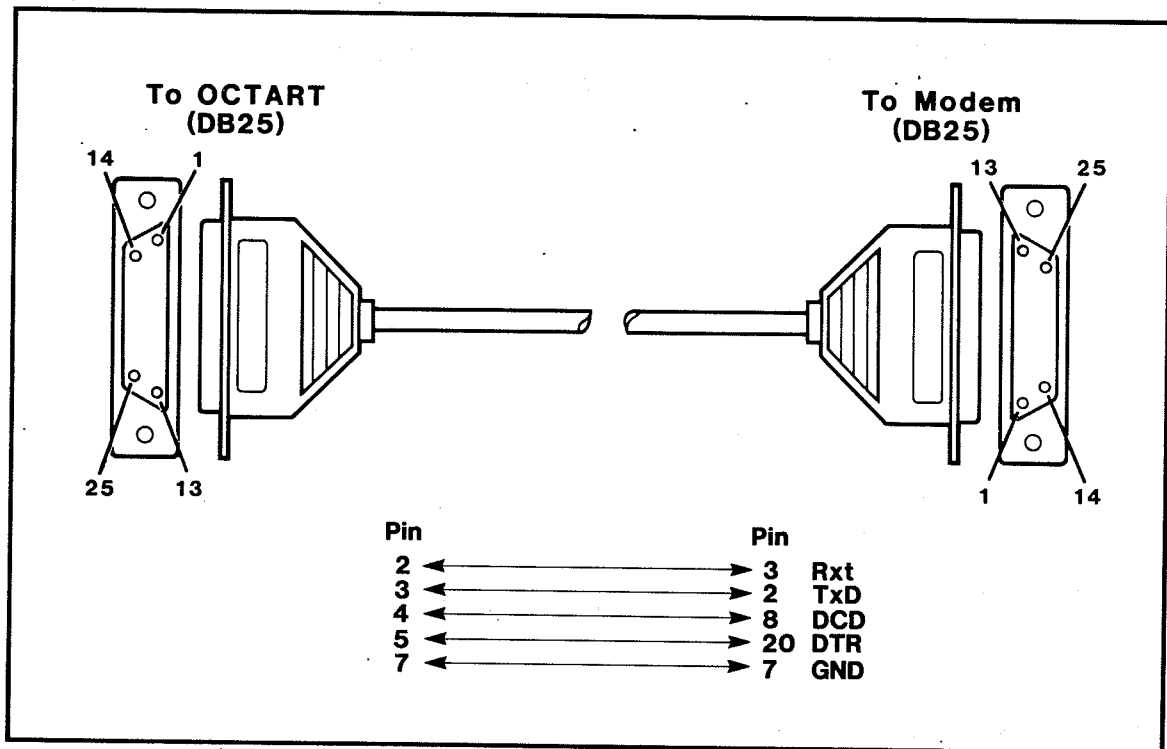

Figure 4-2: MODEM-TO-OCTART CABLE CONNECTION
1. The modem-to-OCTART cable (Cromemco part CBL-HAYES P/N 519-0249) must be wired as shown in figure 4-2.
2. For the Hayes Smartmodem 1200 (and other compatible modems), the user must change configuration switches 1 and 6 to the UP (OFF) position to enable pins 8 and 20; the remaining switches should be in the DOWN (ON) position.